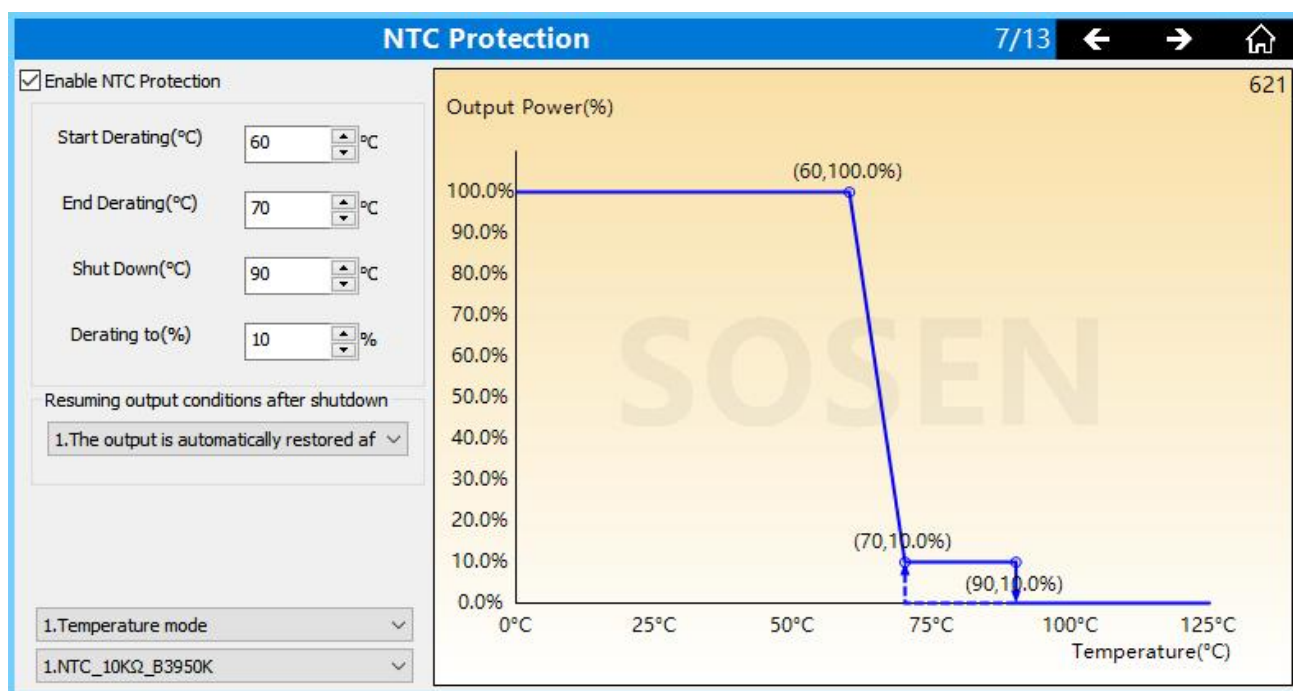

Figure 1
a.The NTC functions supported by the a.D4i model are shown in the functional interface shown in Figure 1.Models that support this feature include the 22PA-32F.Note: DALI2 models do not have NTC function.